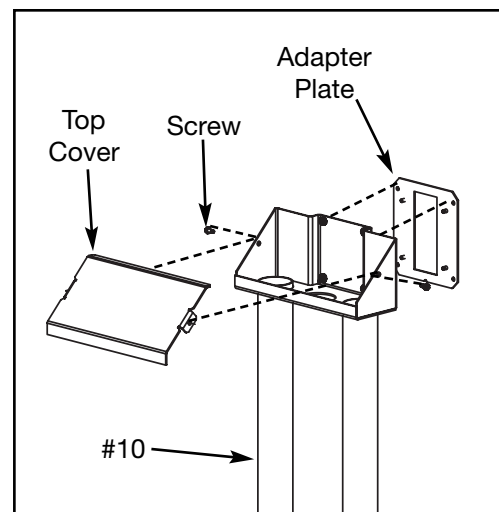

Figure 3
- B. Using the Phillips head screwdriver (#28) remove the two screws securing the top cover in place. See Figure 3.